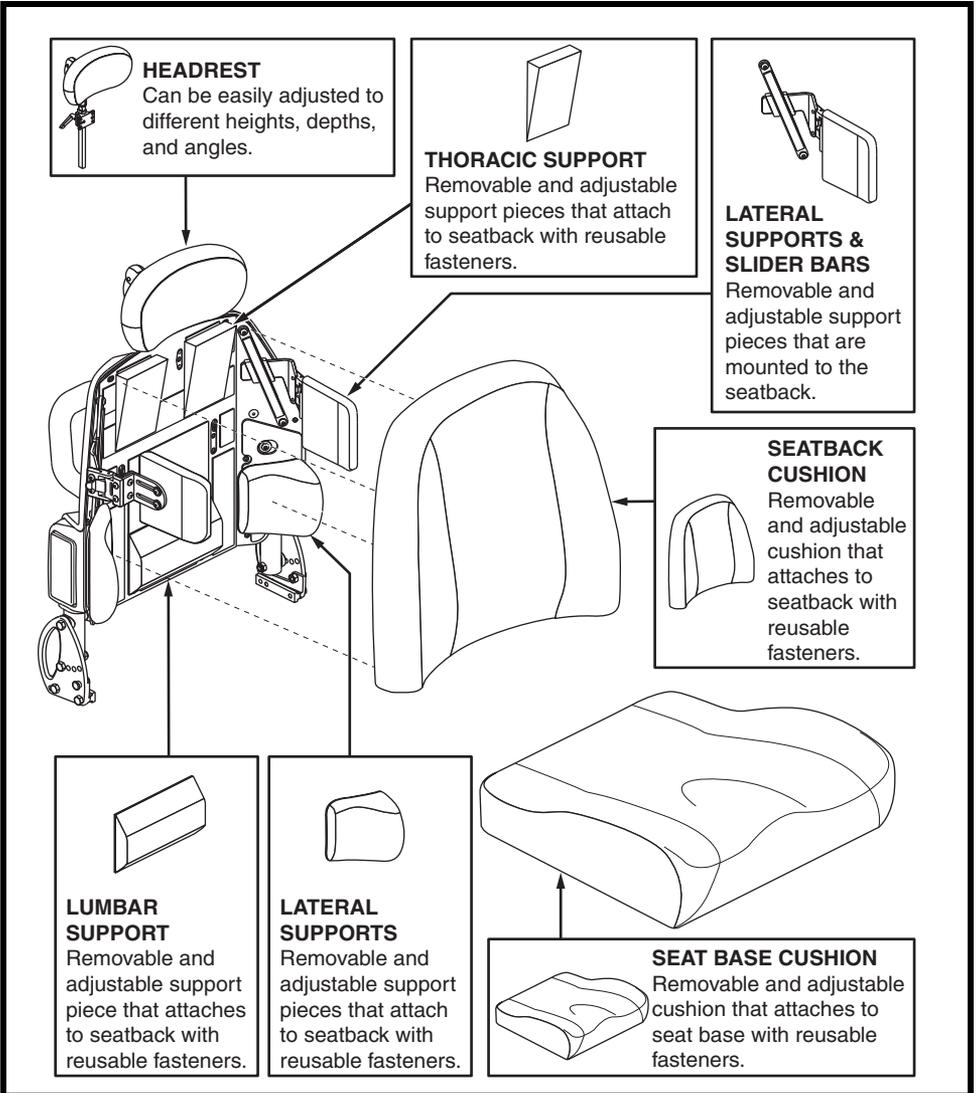

Figure 1. Synergy TRU-Comfort Components (Non-Recline)
The Synergy TRU-Comfort is a unique seat cushion that is available in non-recline, power recline, and manual recline versions, and is adjustable for user comfort and positioning needs. **Figure 1** provides information on the non-recline version of the Synergy TRU-Comfort components. Use this diagram to familiarize yourself with the function and location of each component before using the Synergy TRU-Comfort.
1. Position the lumbar, lateral, and thoracic support(s) as needed for user comfort and positioning needs flat side down and push onto the seatback. See figure 1 or 2.
2. Position the seatback cushion upholstered side up over any lumbar, lateral, and thoracic support(s) and push the cushion into the seatback to secure. See figure 1, 2, or 3.